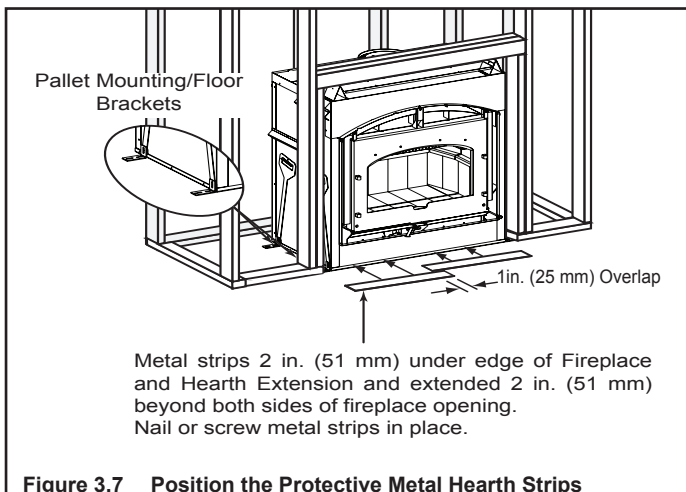

Figure 3.7 Position the Protective Metal Hearth Strips
- Metal strips must extend beyond the front and sides of the fireplace opening by at least 2 in. (51 mm), Figure 3.7).